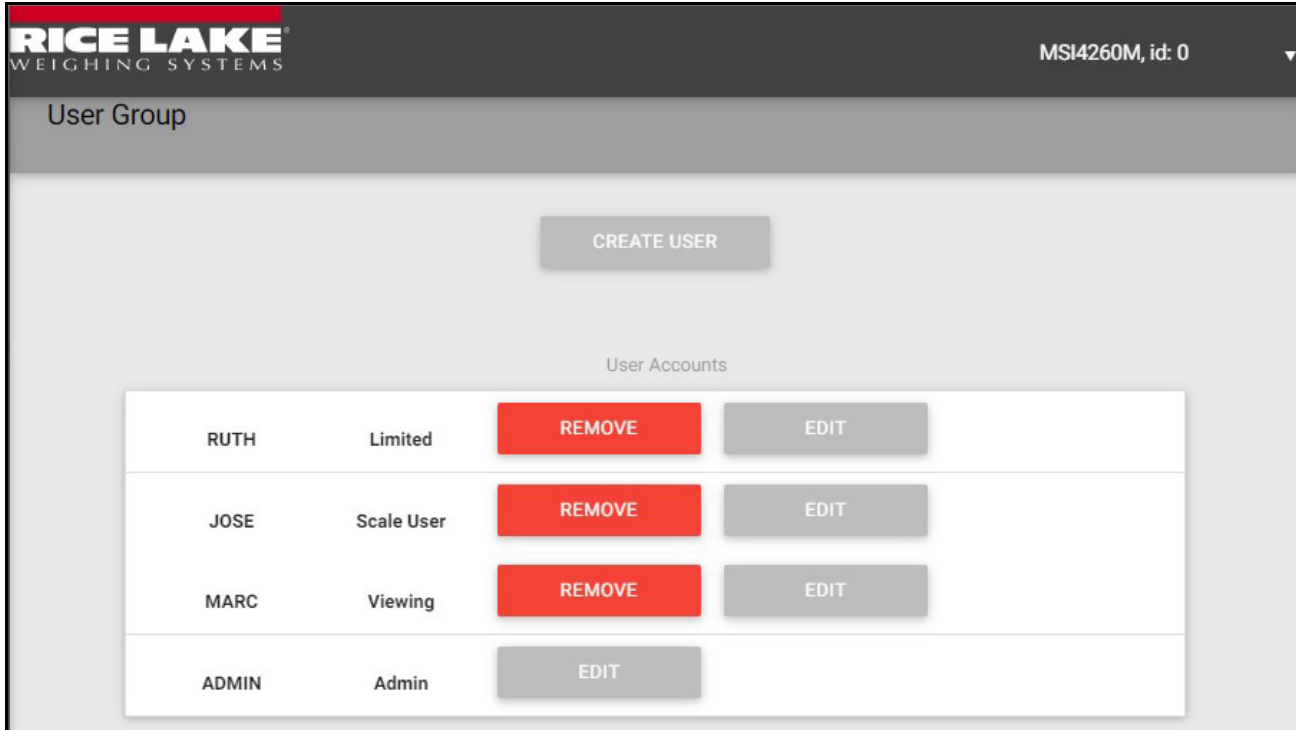

Figure 3-25. User Group Screen
2. Select **Edit** to the right of the user to be edited (Figure 3-25 on page 31).
2. Select **Remove** to the right of the user to be removed (Figure 3-25 on page 31). Confirmation box displays.